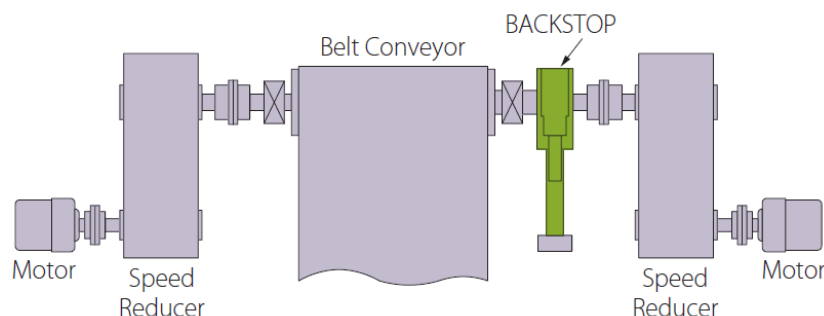

Figure 2
- Dual Drives, Single Backstop arrangements for low speed application are directly mounted on extended Head or Drive pulley shaft opposite to the Drive as shown in fig.2